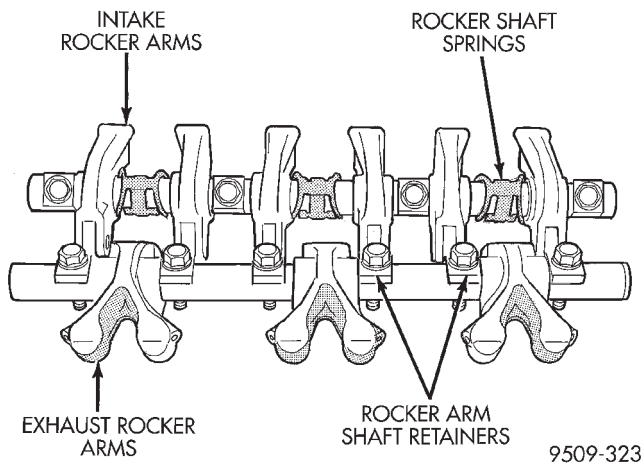

Fig. 89 Rocker Arm Shafts
(1) Identify the rocker arms and retainers for reassembly. Disassemble the rocker arm assemblies by removing the attaching bolts and spring clips from the shaft (Fig. 89).
(2) Slide the rocker arms off the shaft. Keep the spacers and rocker arms in the same location for reassembly.
Lubricate the rocker arms. Install onto shafts in their original position (Fig. 89).